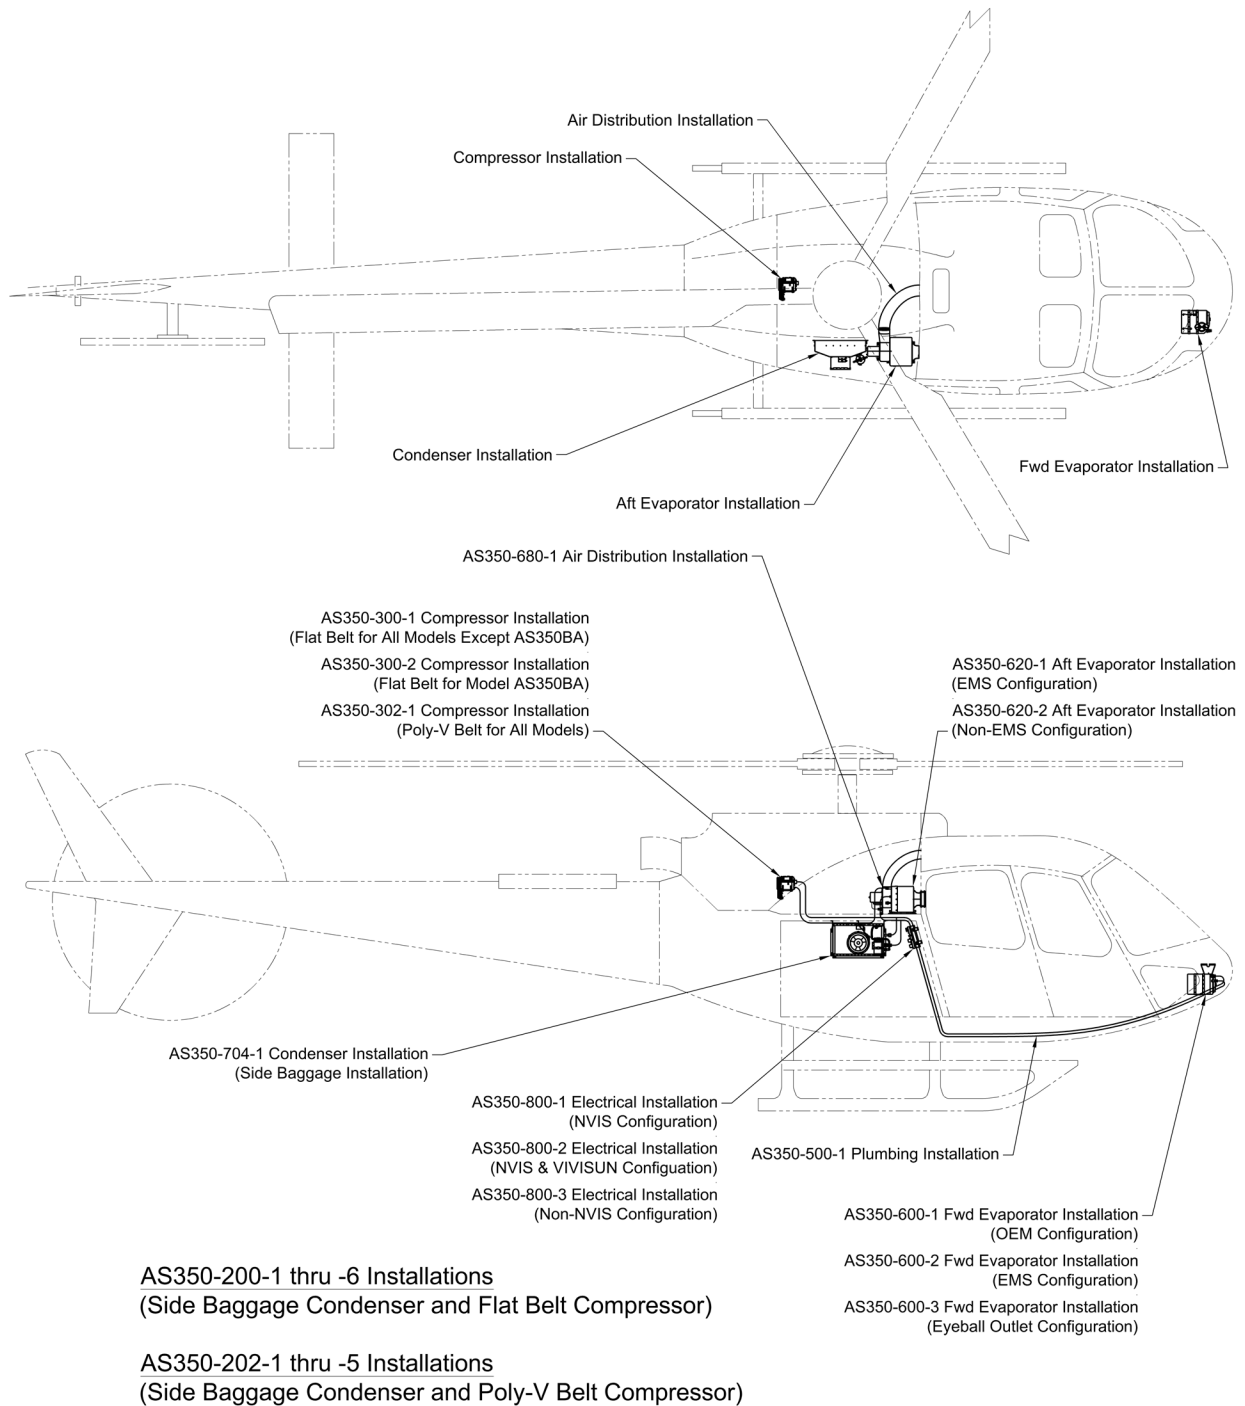

Figure 4-1 – Layout of AS350 Air Conditioning System
a) Locate the Molex electrical connectors that power the aft evaporator and condenser blowers. See figures 4-1,2 and 4-9 thru 13. The connectors are at the interface between the blower harness and the aircraft harness and identified by their white plastic housing. Note that the evaporator blowers have an additional connector to inspect located several inches away from the harness connector.